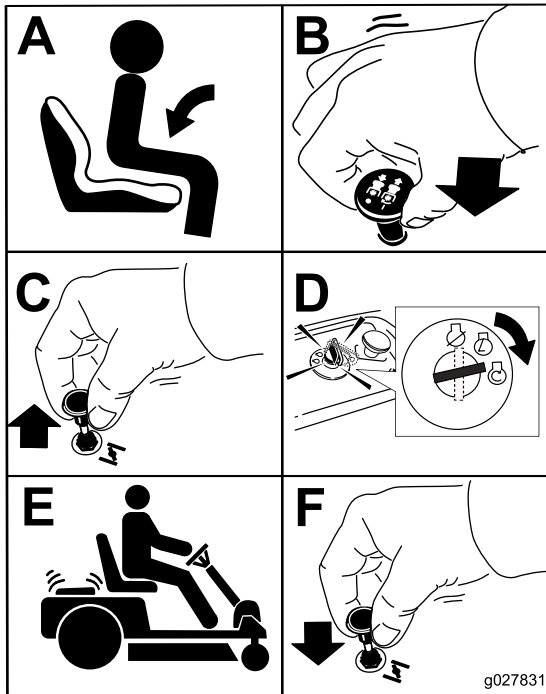

Figure 17
Sit down on the seat and ensure that the parking brake is engaged (Figure 17).
1. Disengage the blades by pushing the blade-control switch to the OFF position (Figure 17).